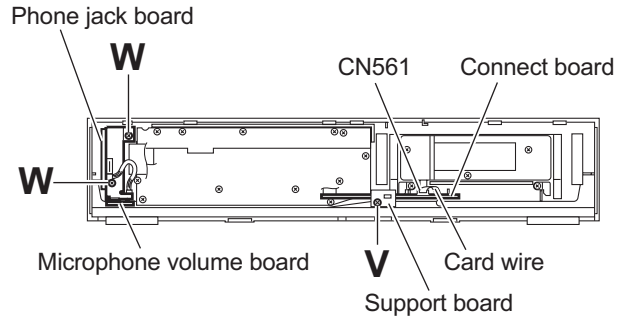
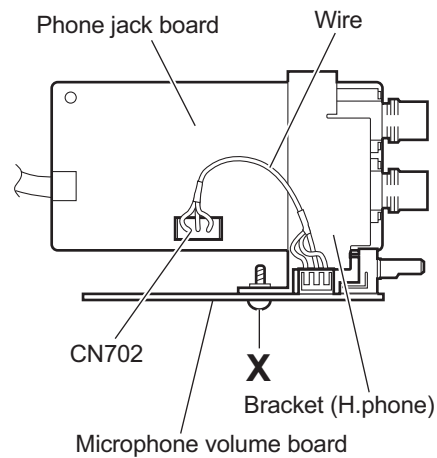

Fig.14
Fig.15
3.1.9 Removing the connect board (See Fig.14)
3.1.10 Removing the phone jack board and microphone volume board (See Figs.14,15 and 17)
- (2) From the inside of the front panel assembly, remove the two screws **W** attaching the phone jack board. (See Fig.14.)
- (3) Take out the phone jack board together the microphone volume board. [US/UW/UG version]
- (4) Take out the phone jack board. [UJ version]
- (5) From the forward side of the phone jack board, disconnect the wire from the connector **CN702** on the phone jack board. (See Fig.15.) [US/UW/UG version]
- (6) From the reverse side of the microphone board, remove the screw **X** attaching the microphone board to the bracket(H.phone) on the phone jack board. (See Fig.15.) [US/UW/UG version]